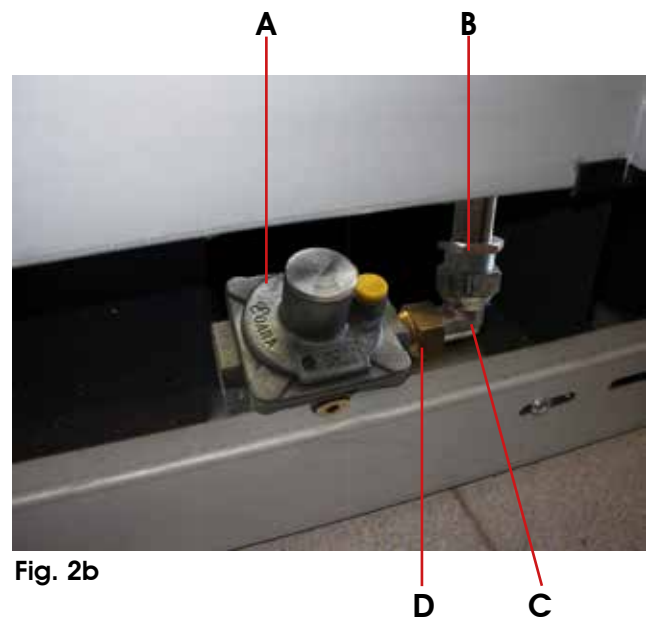

Fig. 2b
- As show in fig.2b, screw "A"+"D"+"C" part into "B" part.